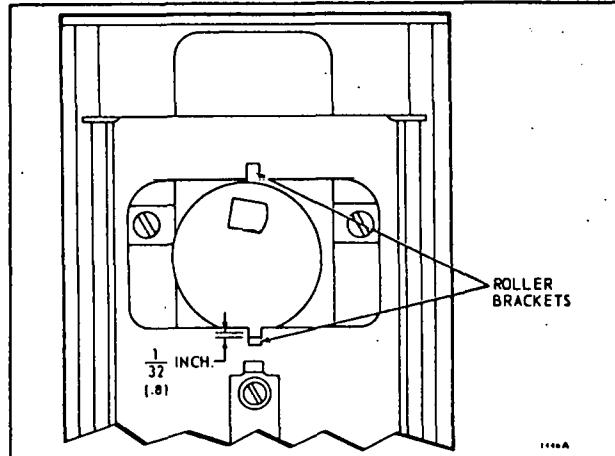

FIG. 6-FOR TIGHT CLOSE-OFF, THE ROLLER BRACKET ON THE LINKAGE MUST BE DEPRESSED AT LEAST 1/32 INCH [.8 MM] AT THE END OF THE MOTOR'S STROKE.
3. The valve must close off tightly at the bottom of its stroke (both ends of stroke for 3-way valve). Check for at least 1/32 [.8 mm] deflection of the roller bracket in closed position (Fig. 6).